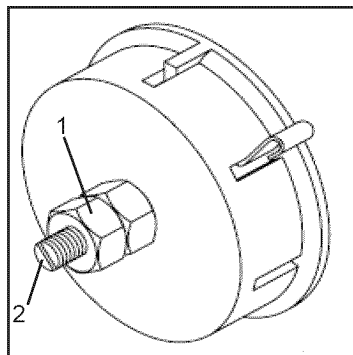

Figure 15
5.3 Tighten the lock nut (1). **See Fig. 15**